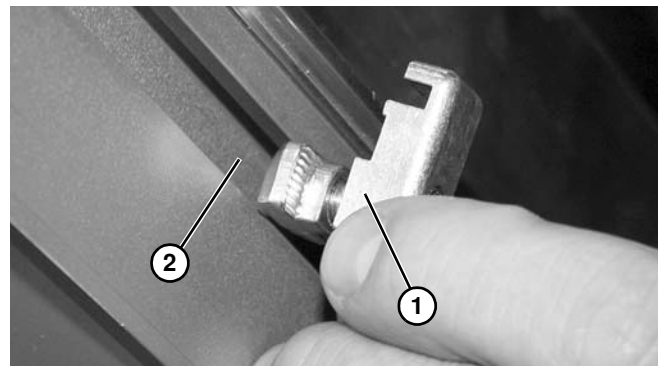

**Figure 32**
13. Secure top and bottom guards with weld nut (**Figure 32, item 1**) and screw (**Figure 32, item 2**) on each side of assembly. Repeat on bottom side.
14. Tighten screws (**Figure 32, item 2**).